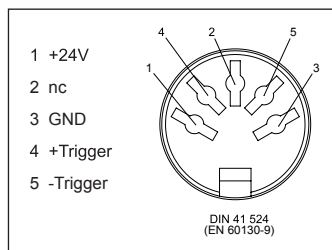

Fig. 3 - Assignment of the connection socket.
3. Assign the connection socket as per Fig. 3.